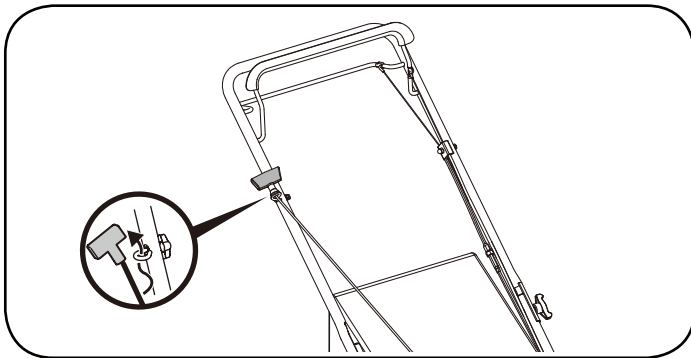

Figure 15
4. Once the engine is running, put the starter rope into the rope guide (see Figure 15).